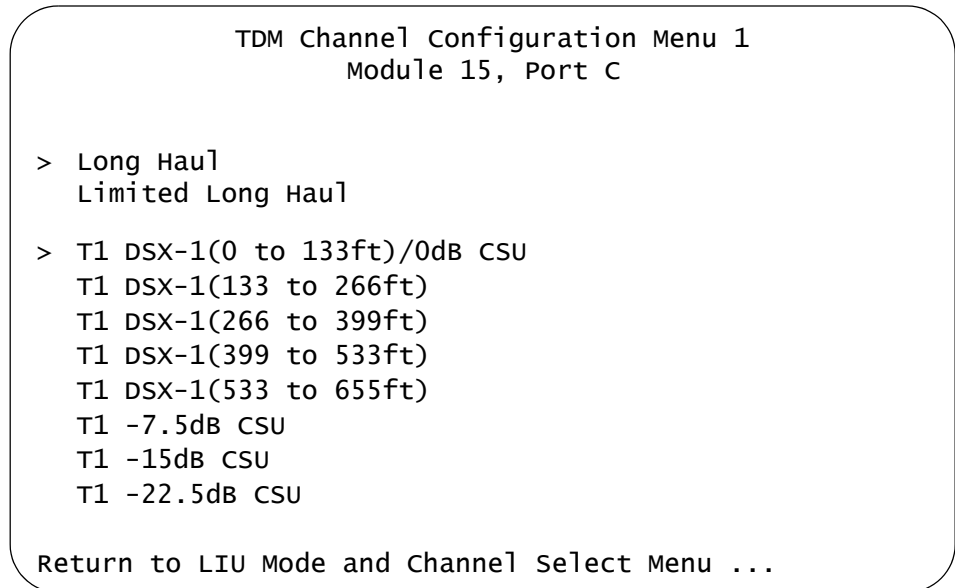
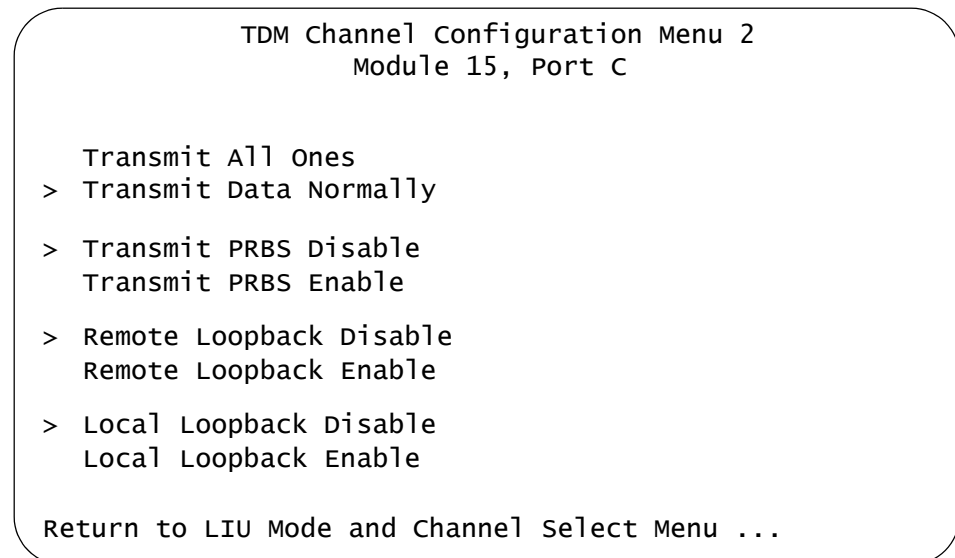

Figure 102. TDM Channel Configuration Menu 1
Figure 103. TDM Channel Configuration Menu 2
6. After you've designated the carrier type, configure the individual ports. Each channel in the menu represents a different port on the line card. Channel 1 represents T1/E1 port 1, channel 2 represents T1/E1 port 2, and so forth. Each port has a submenu 1, shown in Figure 102, and a submenu 2, shown in Figure 103. Some of the selections differ depending on the designated carrier type of the card.